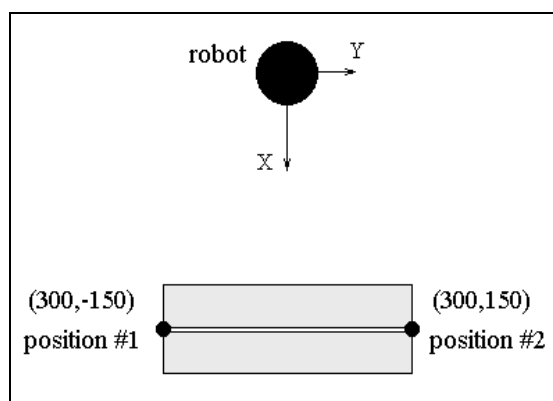

Figure 10-1
While the virtual robot always has a gripper attached to its end effector, you will pretend in this activity that the robot has a welding tool attached. The robot (whose base is shown in Figure 10-1) needs to move the TCP along the edge of the two adjacent blocks to simulate a welding operation. The two end positions, #1 and #2 (whose distance from the origin is equal), were recorded and their encoder values are shown in Figure 10-2.
- 1** Record position #1 and #2, according to Figure 10-1. For both positions, set the Z coordinate to 60 mm and the pitch to -90°.